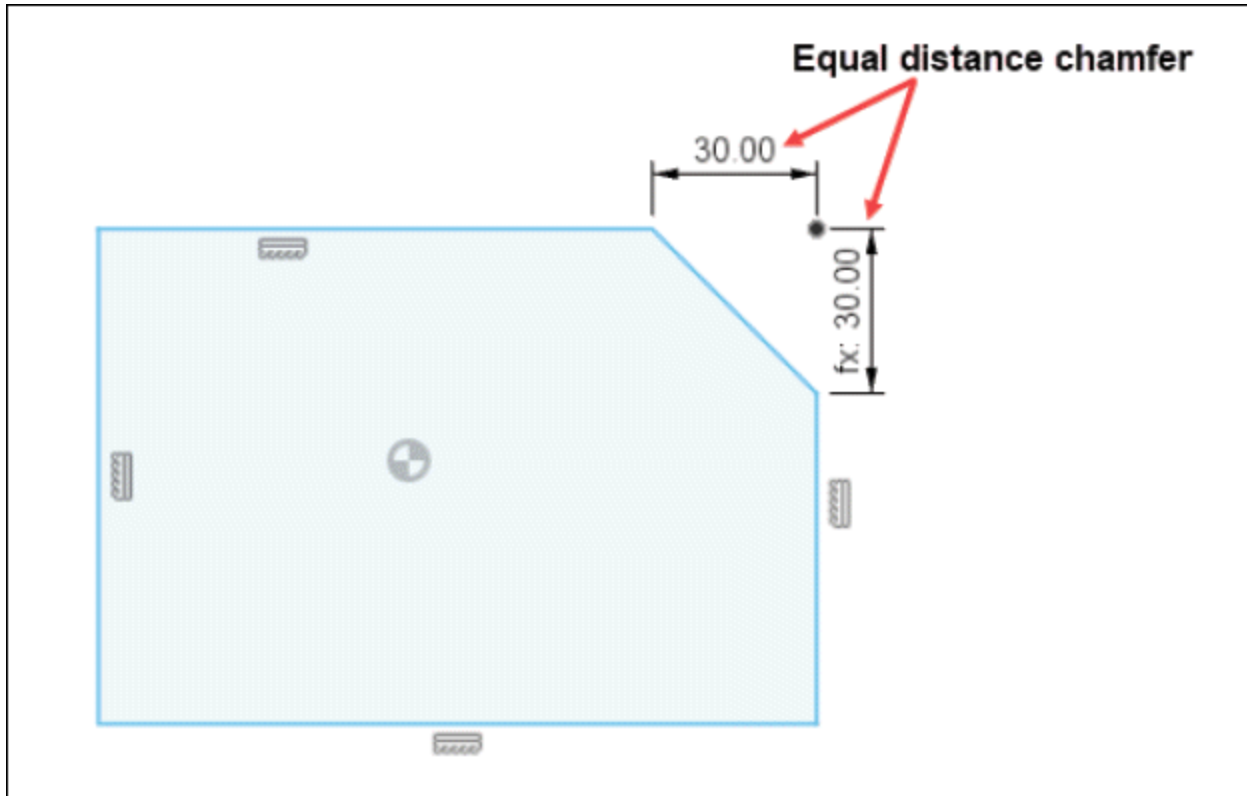

Figure-71. Equal distance chamfer created
- After specifying the chamfer distance, press **Enter**. The equal distance chamfer will be created; refer to Figure-71.